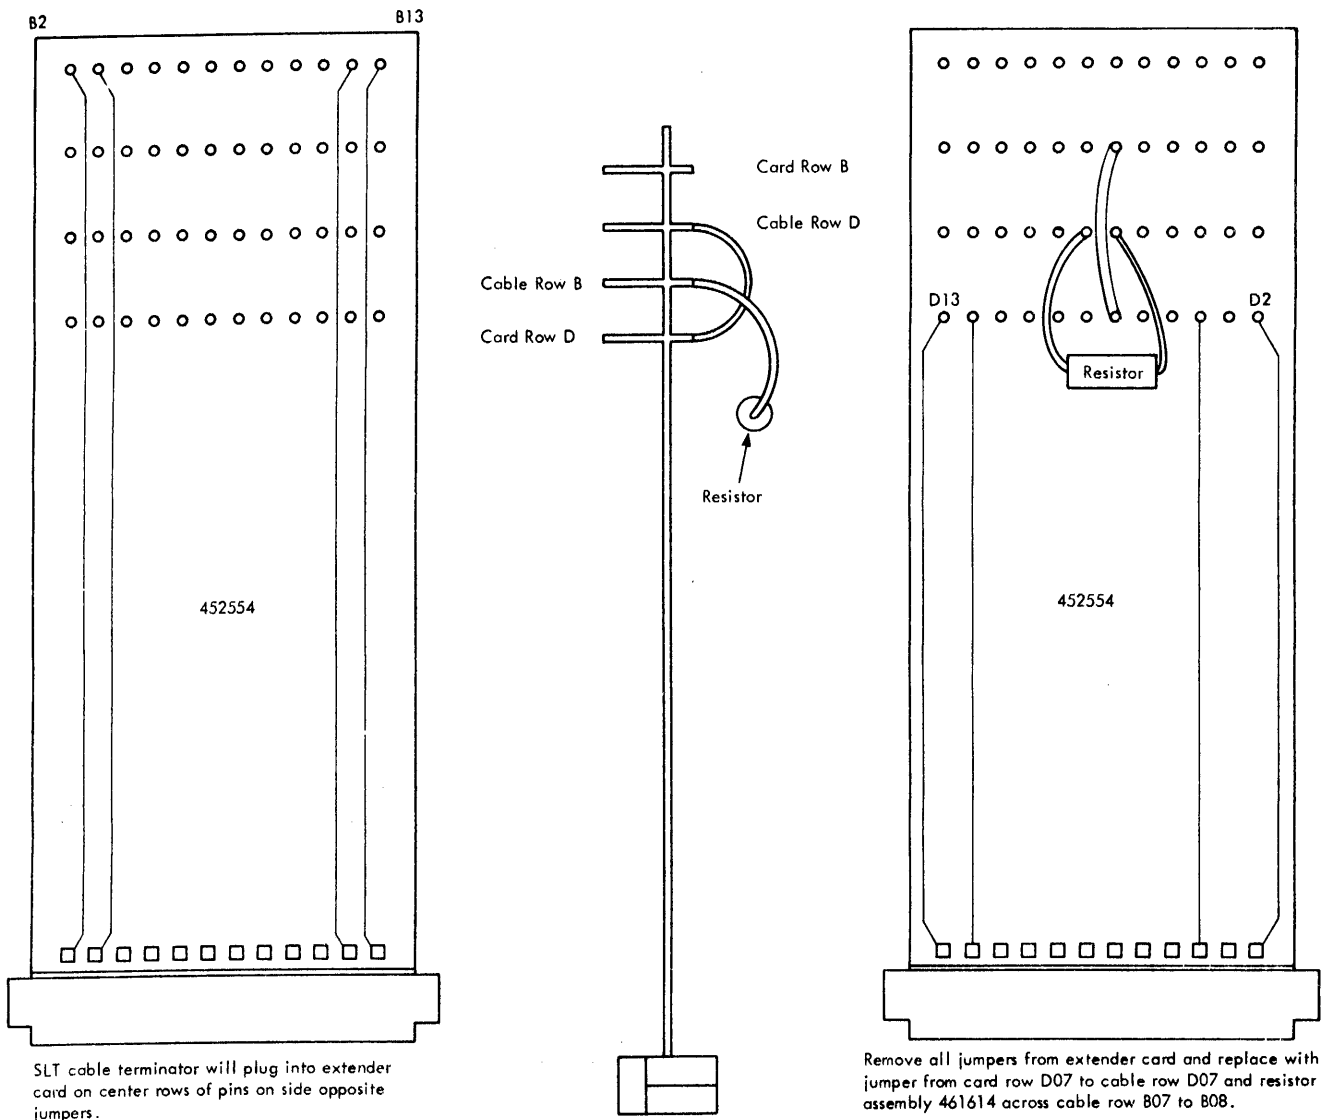

FIGURE 82. EXTENDER CARD WIRING: LS TEMPERATURE CHECK
3. Connect the standard 6-pac extender jumpers and resistor assembly P/N 461614. Refer to Figure 82 for card plugging.